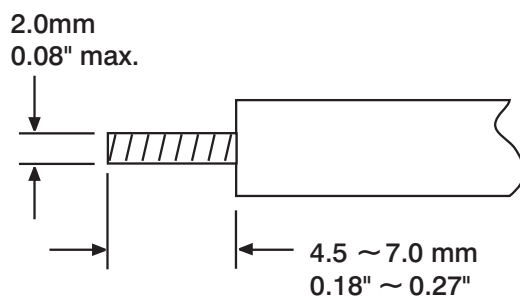

Figure 2.2 Lead Termination
- * The "stripped" leads as specified in Figure 2.2 below are used for power and sensor connections.